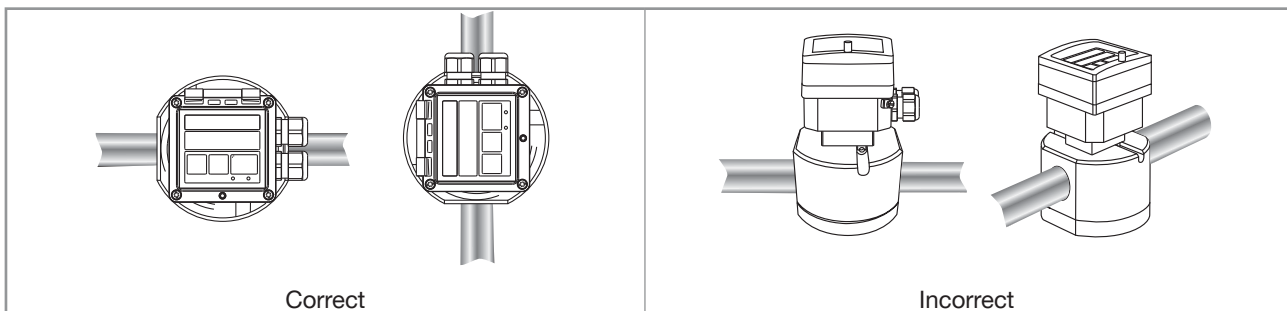

Fig. 8: The axle of the oval gears must be horizontal
- the axles of the oval gears are set horizontally, as shown in Fig. 8,